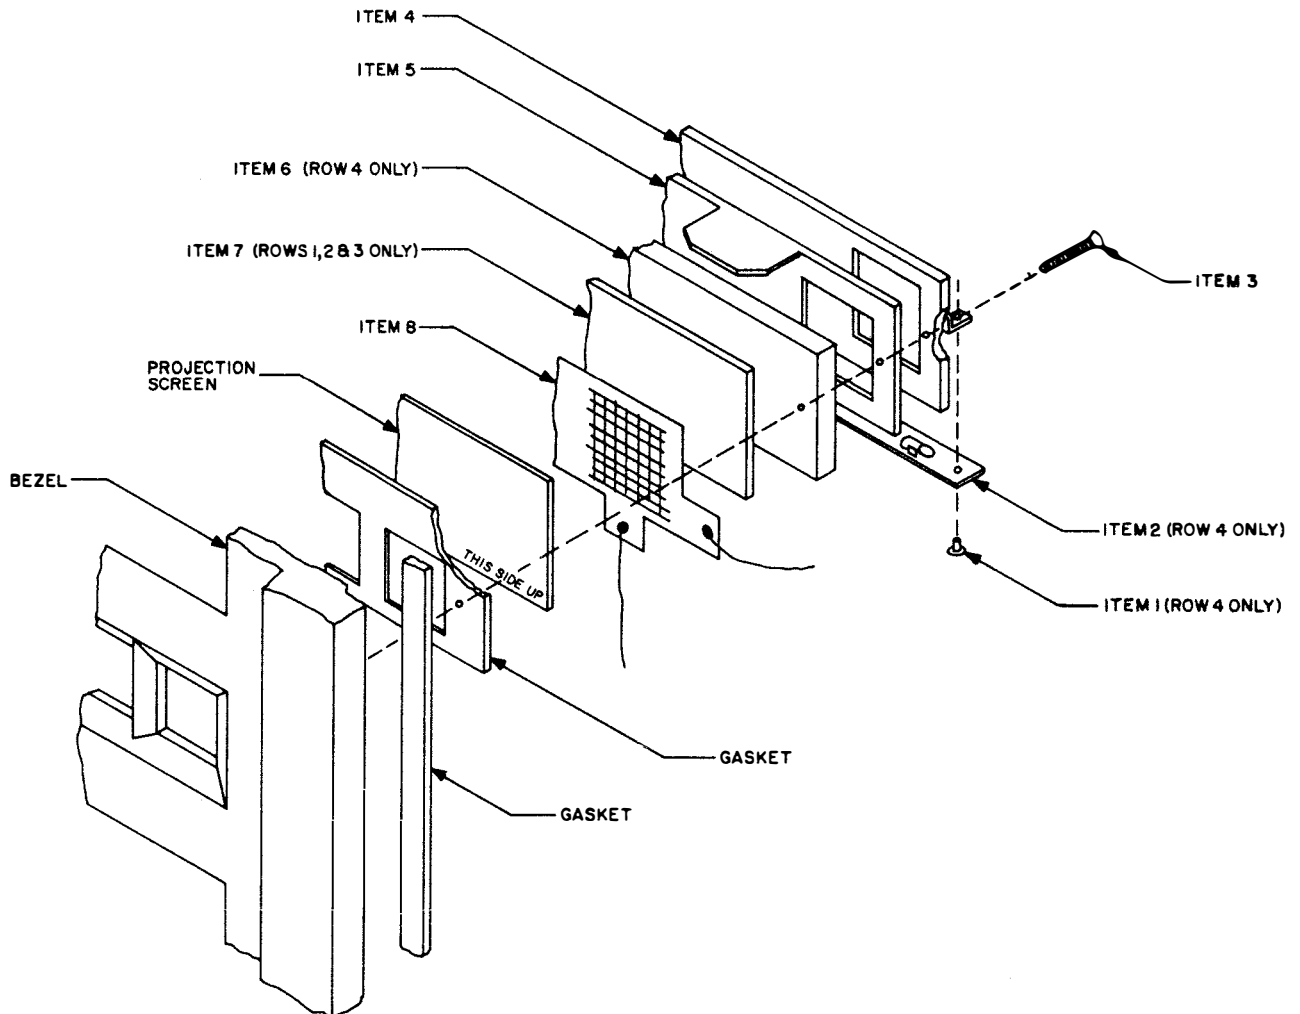

Figure 1. Screen Switch Item Identification
switch assembly IEE No. 20372-01 with the new, two piece configuration, switch assembly IEE 20372-02. See figure 1 for item identification.
3. Rows 1, 2, or 3: (See figure 1 for item identification.)
- a. Remove screw, item 3, four places to remove support plate, item 4, black light shield (not shown), switch assembly locator, item 5, and clear plexiglass backup plate, item 7.
- b. Fold back insulator strips (not shown) seven places. Unsolder switch assembly, item 8, and remove.